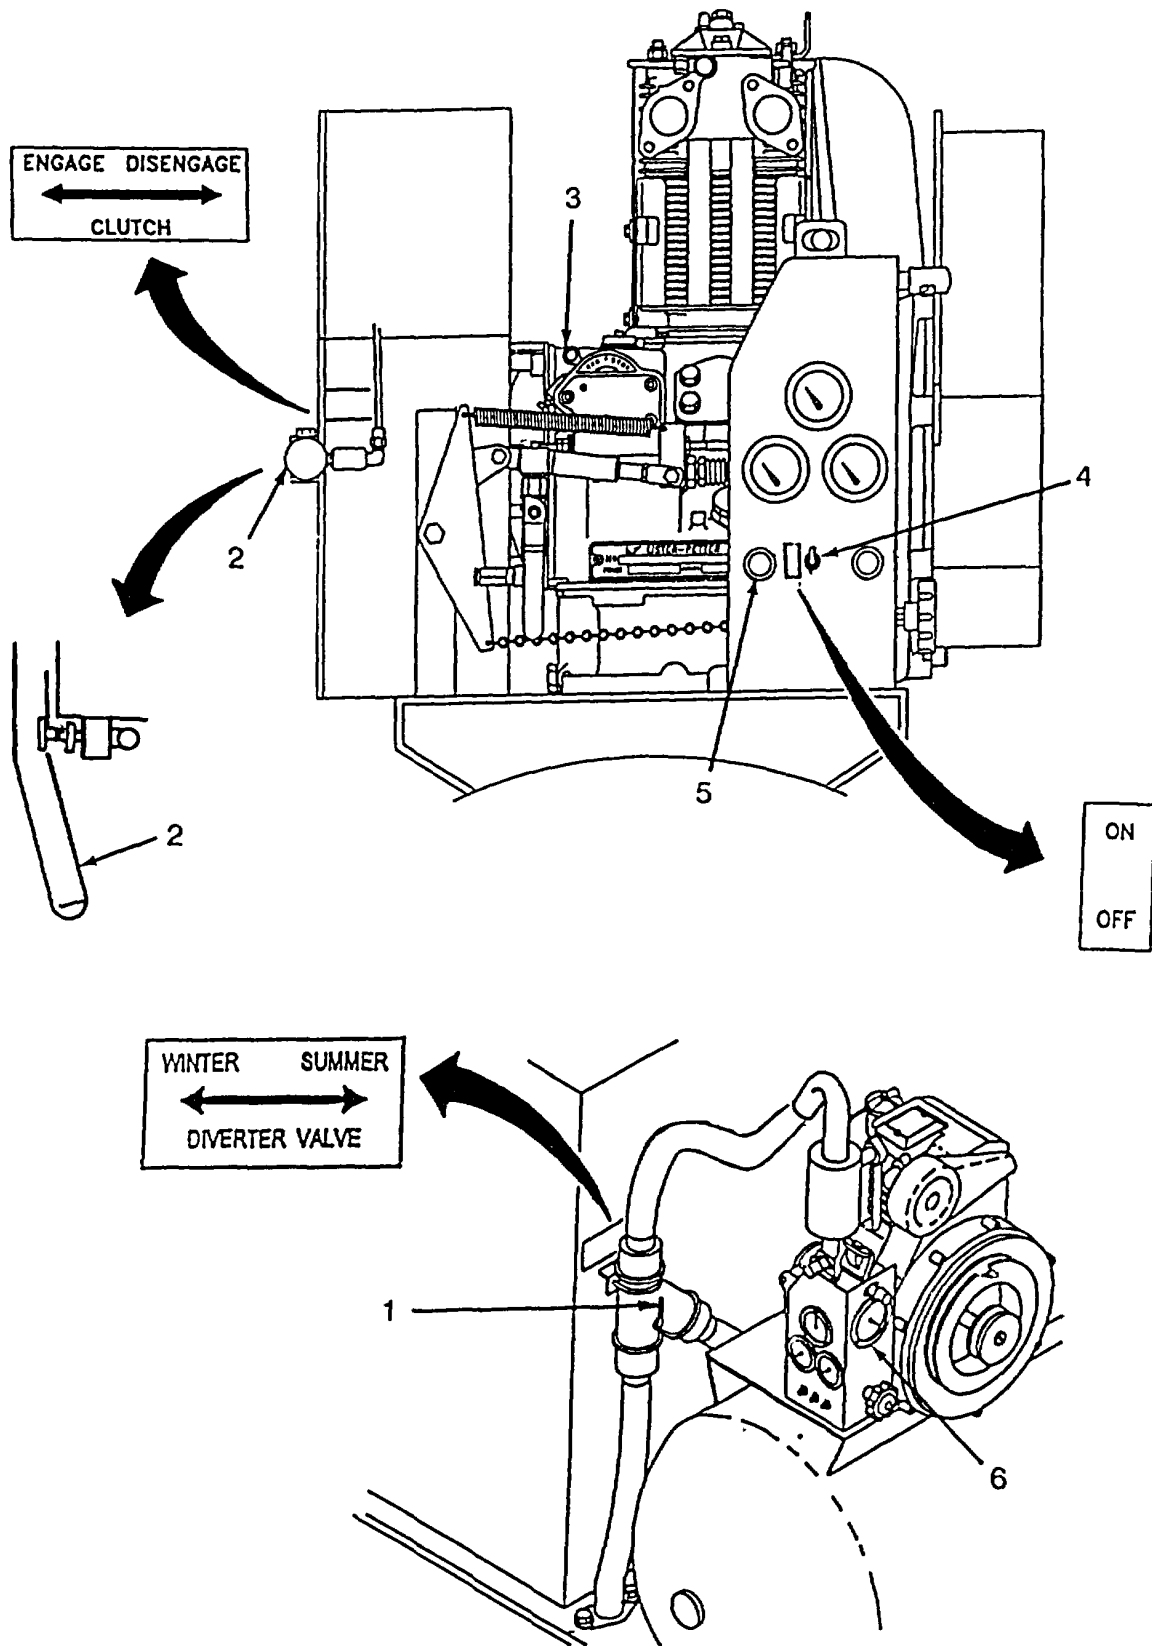

Figure 2-26. Starting and Stopping The Engine (Normal Weather)
(1) NORMAL WEATHER (Refer to Figure 2-26).
- (a) Flip engine exhaust diverter valve (1) to the right, "summer" position.
- (b) Or if clutch is engaged, disengage it by pushing handle (2) in.
- (c) Move the engine run/stop lever (3) on engine to "run".
- (d) Move the on/off toggle switch (4) on control panel to "on".
- (e) Push and hold engine start button (5) on control panel until engine starts, then release.
- b. ENGINE SHUT DOWN NORMAL (Refer to Figure 2-26).
- (1) Disengage clutch (2).
- (2) Move the on/off toggle switch (4) to "off"
- (3) Move the engine run/stop lever (3) on engine to "stop".